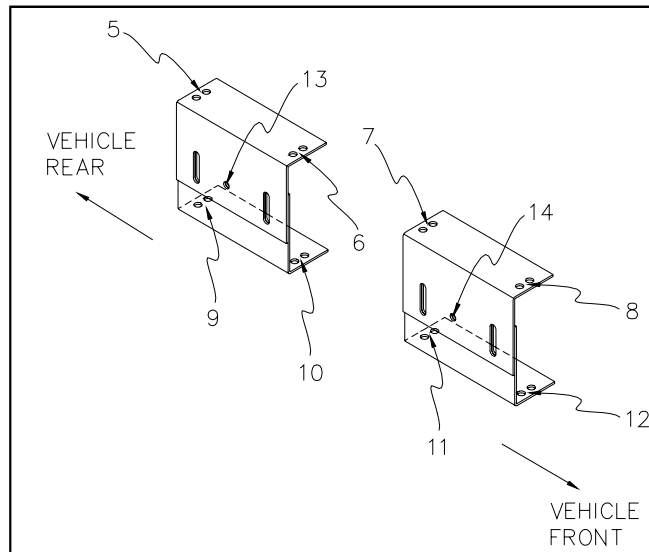

FIGURE 2-6: TOP BRACKET HOLE LOCATIONS
- 3) Refer to **Figure 2-6** on following page. Match and align both top bracket holes 5, 6, 7 and 8 with baseplate assembly holes 5, 6, 7, and 8. Mark bracket assembly mounting holes 9, 10, 11, and 12 onto vehicle step.